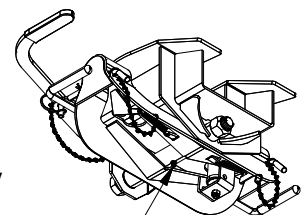

FIGURE F1: Underside view of Coupler Head
- Grease the saddle through the grease zerk approximately every six months with multi-purpose grease. This allows the coupler to pivot freely, see figure F1.